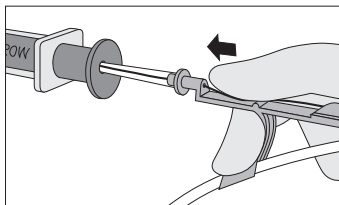

Fig. 4
- Advance guidewire into Arrow Raulerson Syringe approximately 10 cm until it passes through syringe valves (refer to Fig. 4) or into introducer needle.